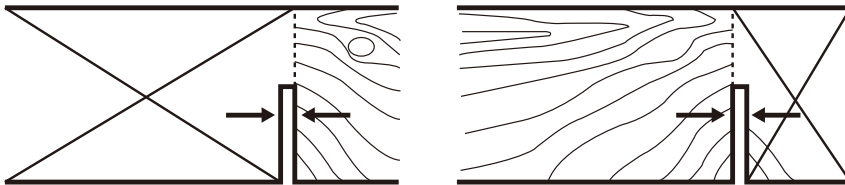

Fig. 12
- > Take the cutting edge into consideration when cutting along marked cutting lines. Do not cut directly on the line but next to it (Fig. 12).